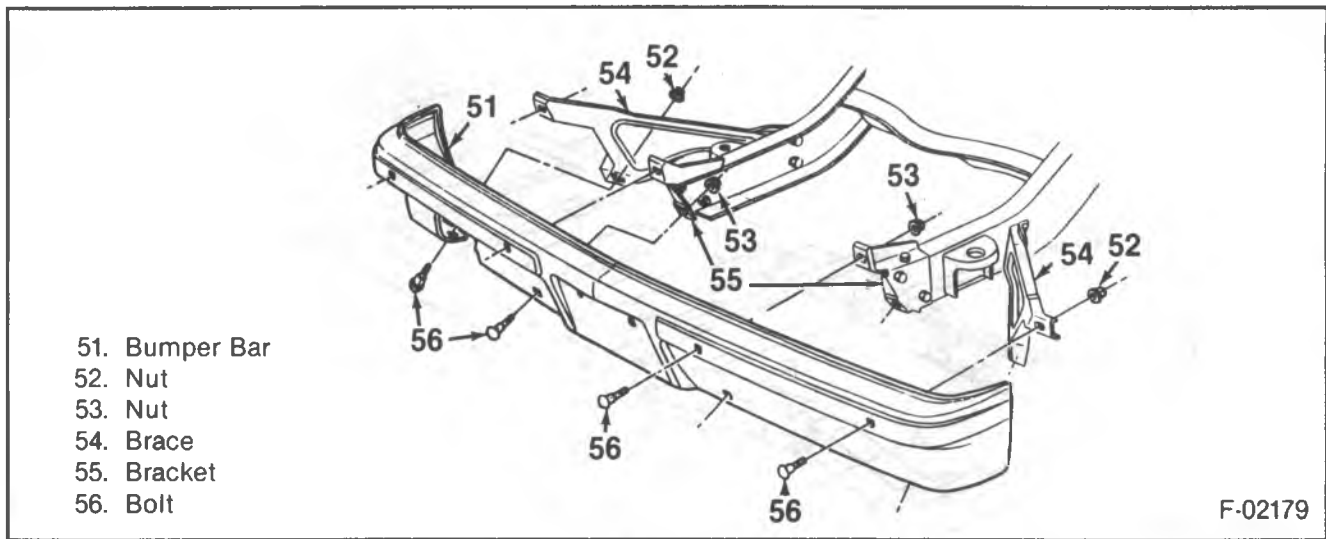
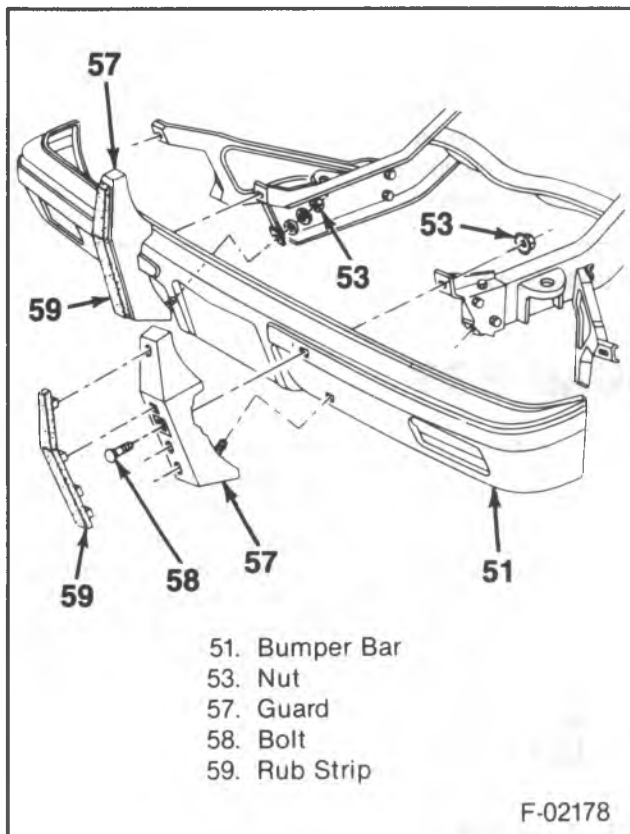

Figure 4 — R/V Front Bumper Components
Figure 5 — R/V Front Bumper Guards
1. Brace to bumper nuts (52) (figure 4).
2. Bracket to bumper nuts (53).
4. Guard assemblies (where used) (figure 5).
→ Install or Connect (Figures 4 through 8)